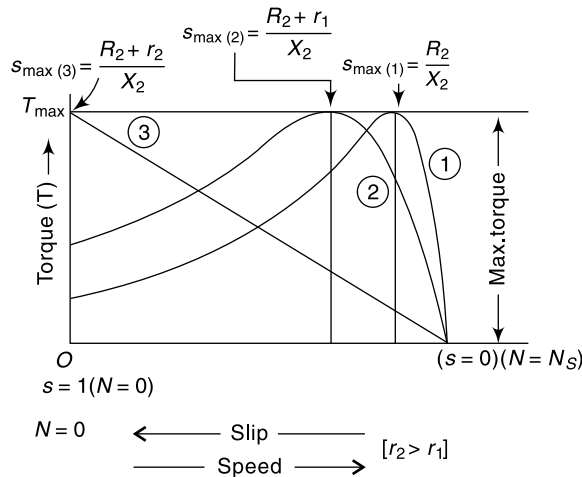

Fig. 5.4 Torque-slip characteristics of an induction motor
i.e., the torque T slip s curve for larger values of slip is approximately a rectangular hyperbola. Consequently, any further increase in motor load, beyond the point of maximum torque, results in decrease of the torque developed by the motor. Eventually, the motor slows down. The maximum torque developed in an induction motor is called the *pull-out torque* or *break down torque*. This torque is a measure of the short time over loading capability of the motor. Figure 5.4 Shows the torque-slip characteristics of an induction motor operating with constant applied voltage, and constant frequency.